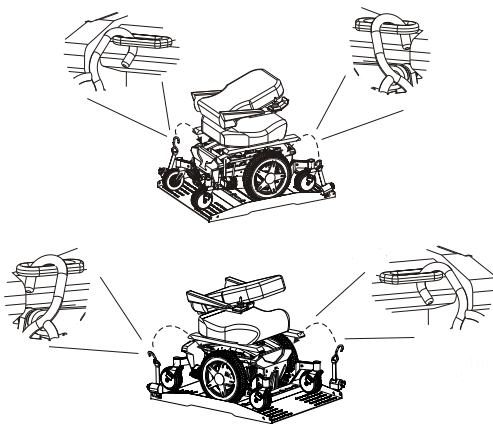

Figure 3-8
2. Either two or four retractor configurations can be used. For two retractor systems, one Q'Strait should be located on each corner opposite each other on the platform. *See Figure 3-8.*